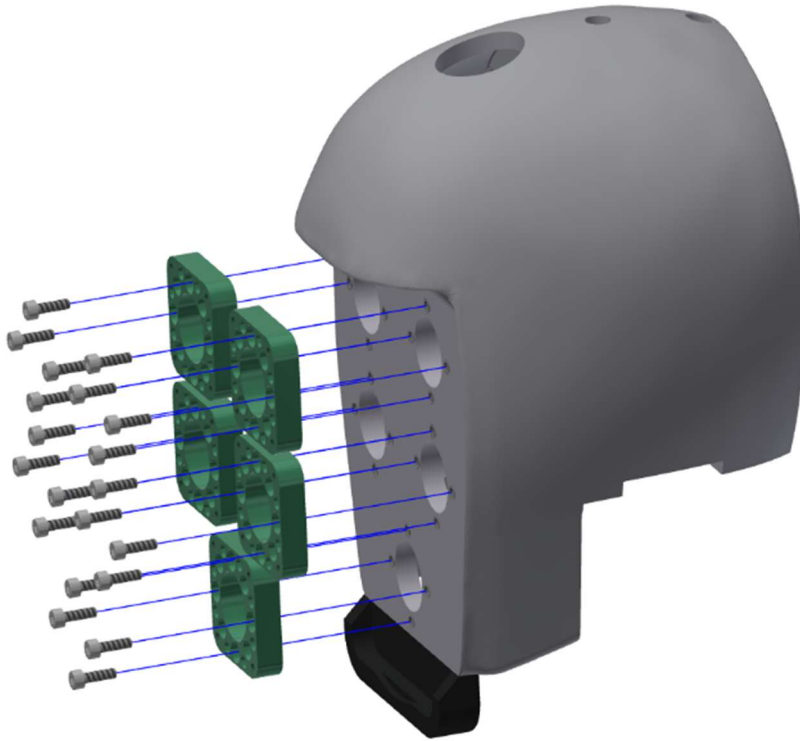

Figure 3-30. Secure the face load cells to face plate
- 3.3.10 Attach five face load cells (SA572-S124) or load cell substitutes (474-1005) to the skull (474-1010) using twenty M3 X 0.5 X 10 SHCS (Figure 3-30).